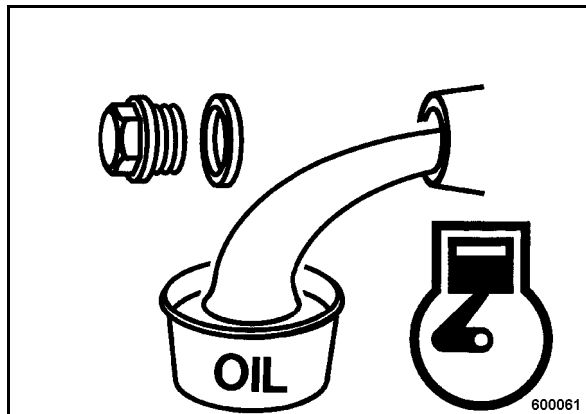

Fig. 38
- Unscrew the oil drain plug (Fig. 38), let the old oil run out and catch it.